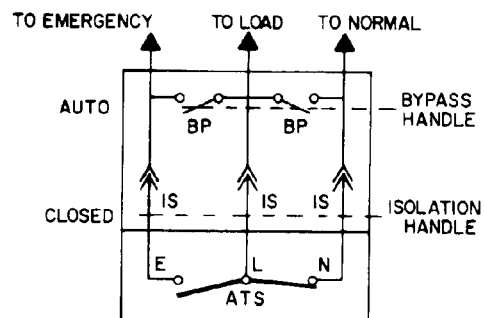

Figure 3-11. Auto position.
6. Turn **Bypass Handle** to *AUTO* position (Figure 3-11).